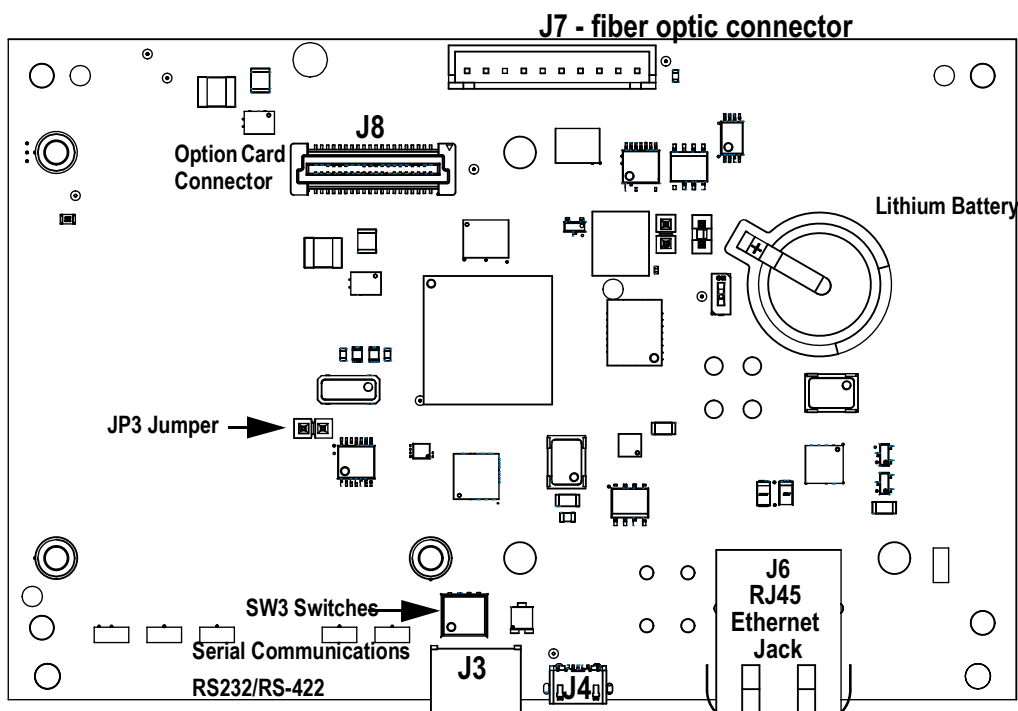

Figure 2-3. IO Module Board
The 882IS IO Module is equipped with a duplex fiber optic port for communicating with an 882IS or 882IS Plus located in the safe or hazardous area. It provides electrical isolation and eliminates the use of IO barriers commonly used in intrinsically safe systems. The optical fibers are plastic; no polishing or further preparation is required. See Figure 2-3 on page 5 for the location of the fiber optic ports in the 882IS IO Module.
4. Secure duplex fiber-optic cable to wire tie mounting button located on IO Module circuit board (see Figure 2-3 on page 5) using wire ties included in parts kit.
The lithium battery on the 882IS IO Module board maintains the real-time clock when it is not connected to AC power. See Figure 2-3 on page 5 for battery location and orientation (positive side up).